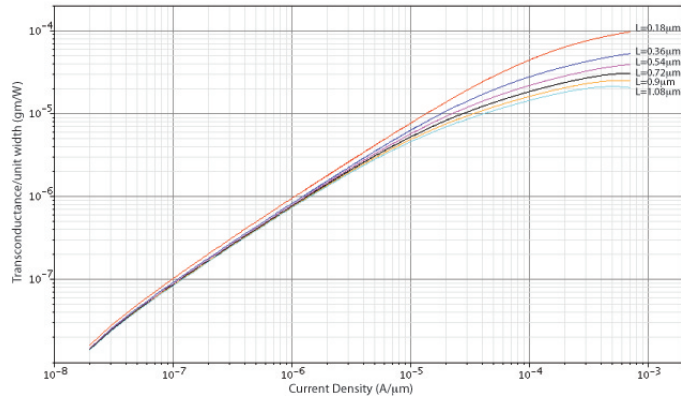

Figure 1: Example  $g_m$  vs  $I_{ds}$  curve for various lengths for a NMOS transistor in 0.18 $\mu\text{m}$  process
The first step in any analog design is to characterize the design parameters so that you can perfrom hand calculation of your intended design. In modern processes there are many second-order effects and instead of using simplified MOS equations design curves are often preferred. For example, instead of using a square law equation that is only approximately valid, a transconductance/unit width( $g_m/W$ ) curve (where W is in  $\mu m$ ) for various current densities( $A/\mu m$ ) is often preferred. An example curve is given in figure 1
1. In cadence, design a simulation so that you can plot the gm vs ids curve for the NMOS and PMOS device in your process. You should also plot the currents for various lengths as in the figure 1. You can use the parametric sweep function in analog artist to aid you in this task. Export your results to MATLAB as a CSV file so that you can determine the equation that best fits the curve for each length. You might have noticed in figure 1 that the curve is linear in the beginning and starts to compress toward the end. The two regions correspond to the subthreshold or weak-inversion and strong inversion regions of the transistor. You may split the curve